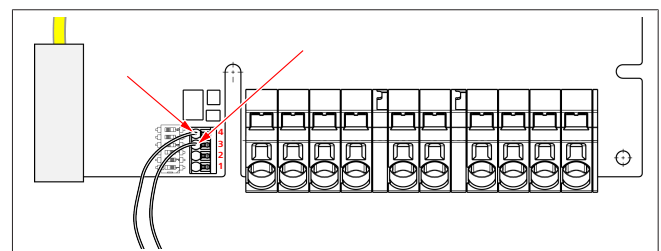

Fig. 9
The two cables from the ripple control receiver or the floating contact must be inserted into this connector in positions 3 and 4 (see Fig. 9). The two cables can be assigned to pos. 3 and 4 in any order. (max. cable cross section 1.5 mm²).